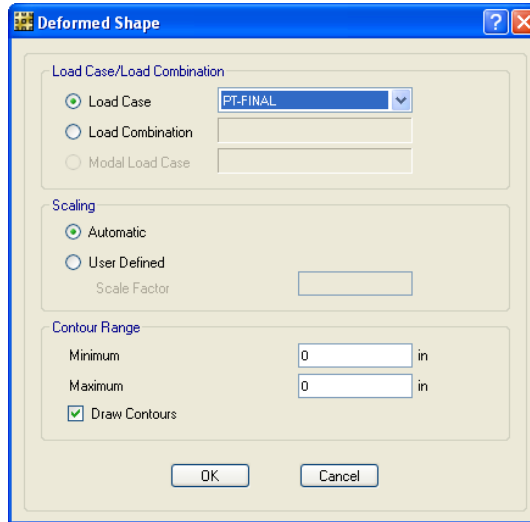

Figure 87 Deformed Shape form
- C. Click the **Display menu > Show Deformed Shape** command to access the Deformed Shape form shown in Figure 87.